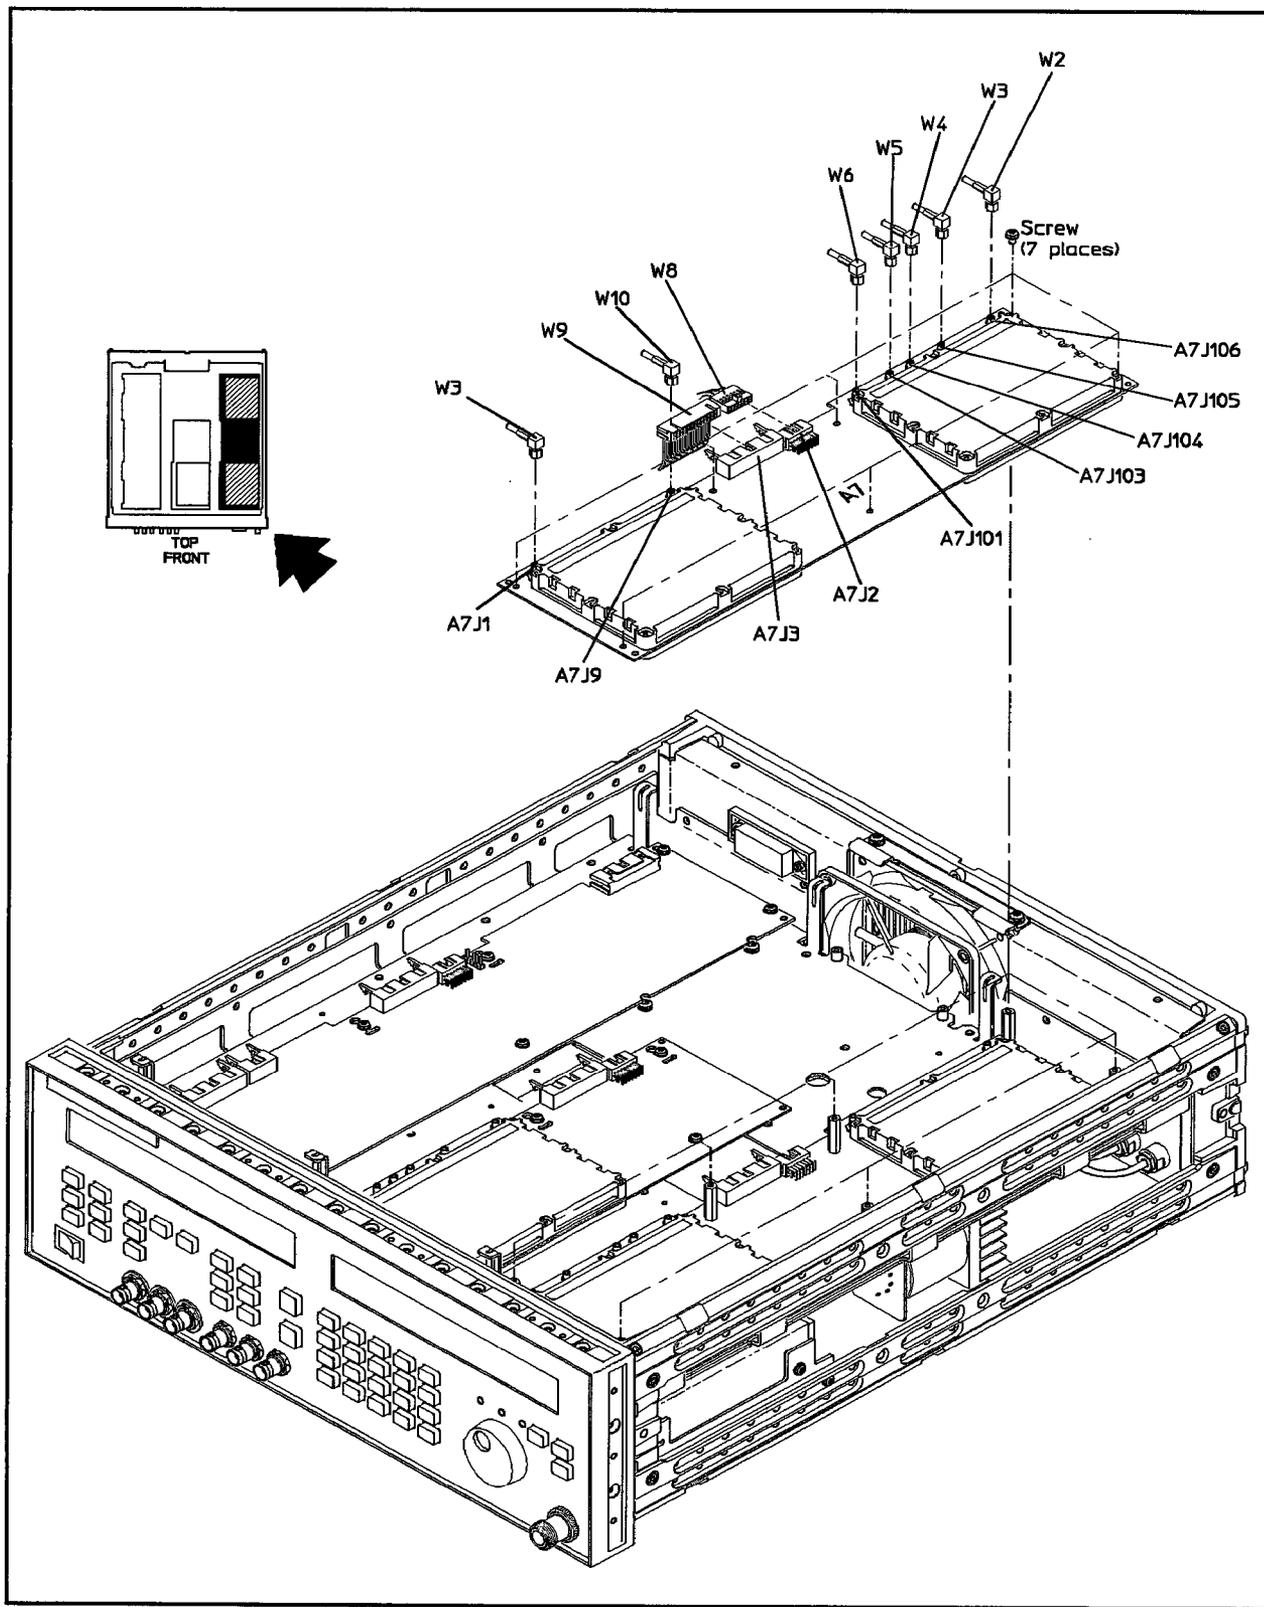

Figure 5-28. YO Loop and Offset Synthesizer Board Removal
3. In the introduction to this chapter, refer to "Flexible Coaxial Cables," and Figure 5-28. Then, disconnect the following cables using a 15/64 in end wrench:
4. Refer to "Multi-wire Cables" and Figure 5-28. Then, disconnect the following cables:
5. Using a size 10 TORX® screwdriver, remove the seven screws connecting the assembly to the standoffs and frame. See Figure 5-28.
3. Using a size 10 TORX® screwdriver, remove the seven screws connecting the A7 assembly to the standoffs and the A6 assembly. See Figure 5-28.